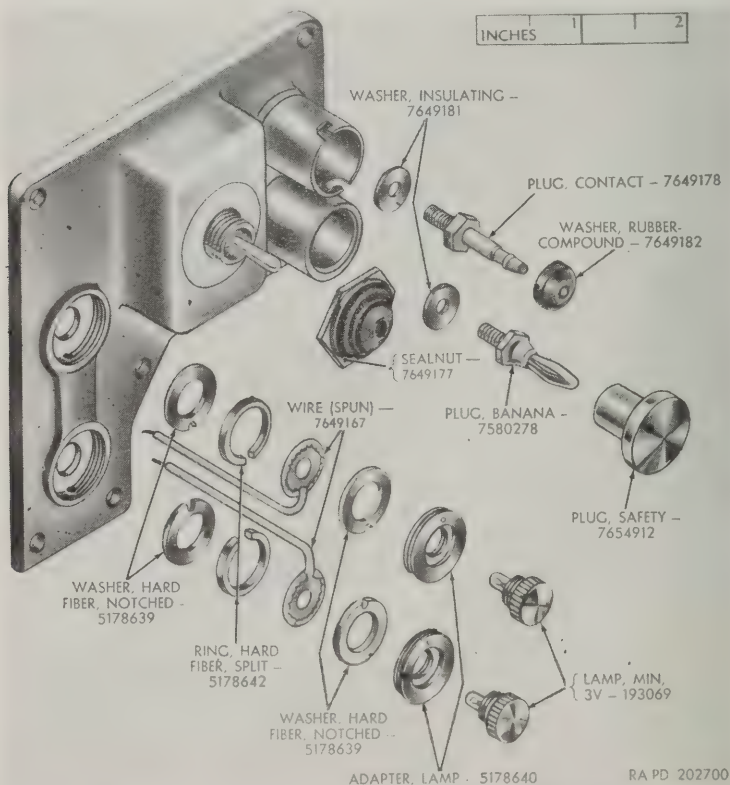
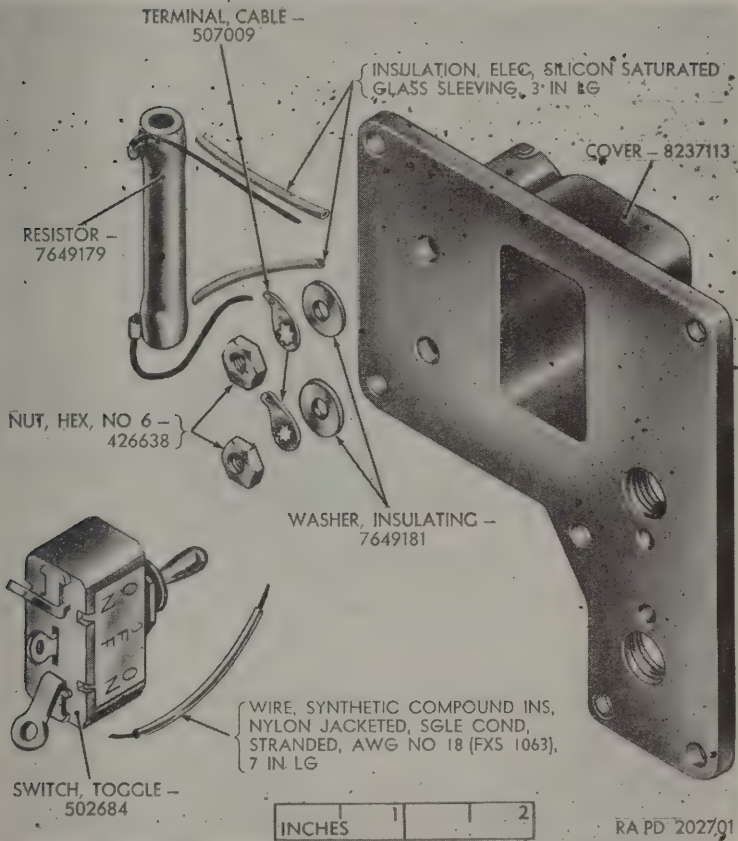

Figure 9. Cover assembly 8237112—partial exploded view.
Figure 10. Cover assembly 8237112—partial exploded view.
a. Remove the lamps (fig. 9) by unscrewing them from the cover.
c. Remove the contact and banana plugs (fig. 9) and their washers by unscrewing the terminal nuts (fig. 10) from the back of the cover and withdrawing the plugs and washers from the front side. A terminal and insulating washer (fig. 10) are removed when the nut is unscrewed. Access to the lower (3-volt) plug is gained by pulling out the safety plug (fig. 9).
d. Remove the toggle switch (fig. 10) from the rear of the cover, after unscrewing the sealnut (fig. 9) from the front side. Unsolder all connections to the switch.
e. Unsolder connections to the resistor and remove the resistor (fig. 10).
b. Solder a cable terminal (fig. 10) to one of the leads of the resistor "R" (fig. 14).
d. Insert the toggle switch (fig. 10) in the cover and secure it with the sealnut (fig. 9).
f. Cement the rubber-compound washer to the hex-shoulder of the contact plug (fig. 9). Assemble the insulating washer and the contact plug in the upper receptacle. Assemble another insulating washer (fig. 10) on the rear end of the plug and attach
the terminal lead (B, fig. 14) of the resistor to the plug by means of the No. 6 hex nut (fig. 10).
*h.* Assemble an insulating washer and the banana plug (fig. 9) in the lower receptacle. Assemble another insulating washer on the rear end of the plug and attach the terminal end of the short length of No. 18 AWG wire (fig. 10) to the plug by means of the No. 6 hex nut.
*i.* Assemble the notched hard-fiber washer, the split hard-fiber ring, the spun wire, and the second notched hard-fiber washer (fig. 9) in each of two lamp receptacles on the front of the cover and secure them with the lamp adapters, using spanner wrench 41-W-3248-110. Screw the two 3-volt miniature lamps in place.